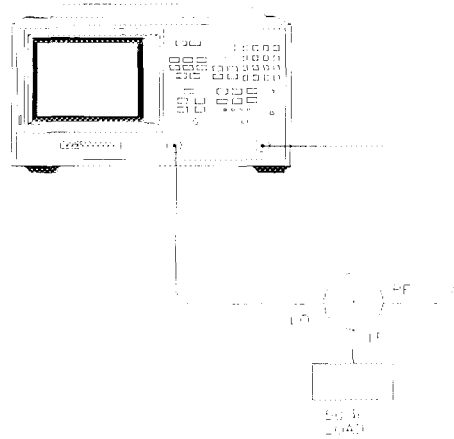

Figure 8-19. Connections for a Mixer Isolation Measurement
- 1 Make the connections as shown in Figure 8-19.